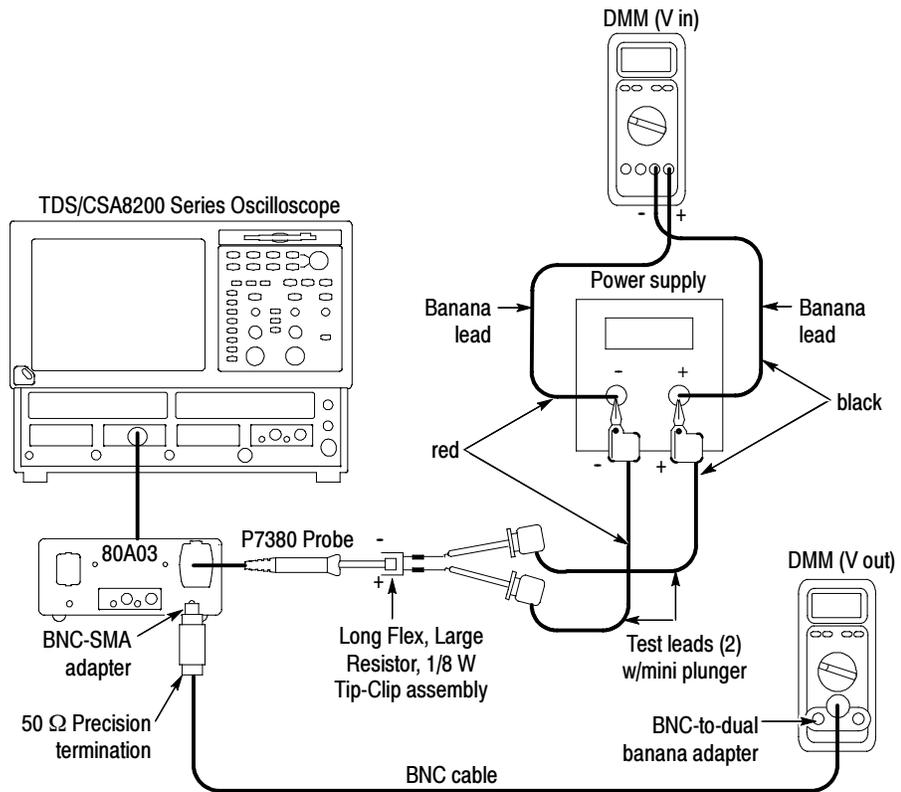

Figure 21: Reverse the power supply polarity on the probe inputs
6. Reverse the polarity of the voltage applied to the probe inputs by swapping both sets of banana leads at the power supply, as shown in Figure 21.